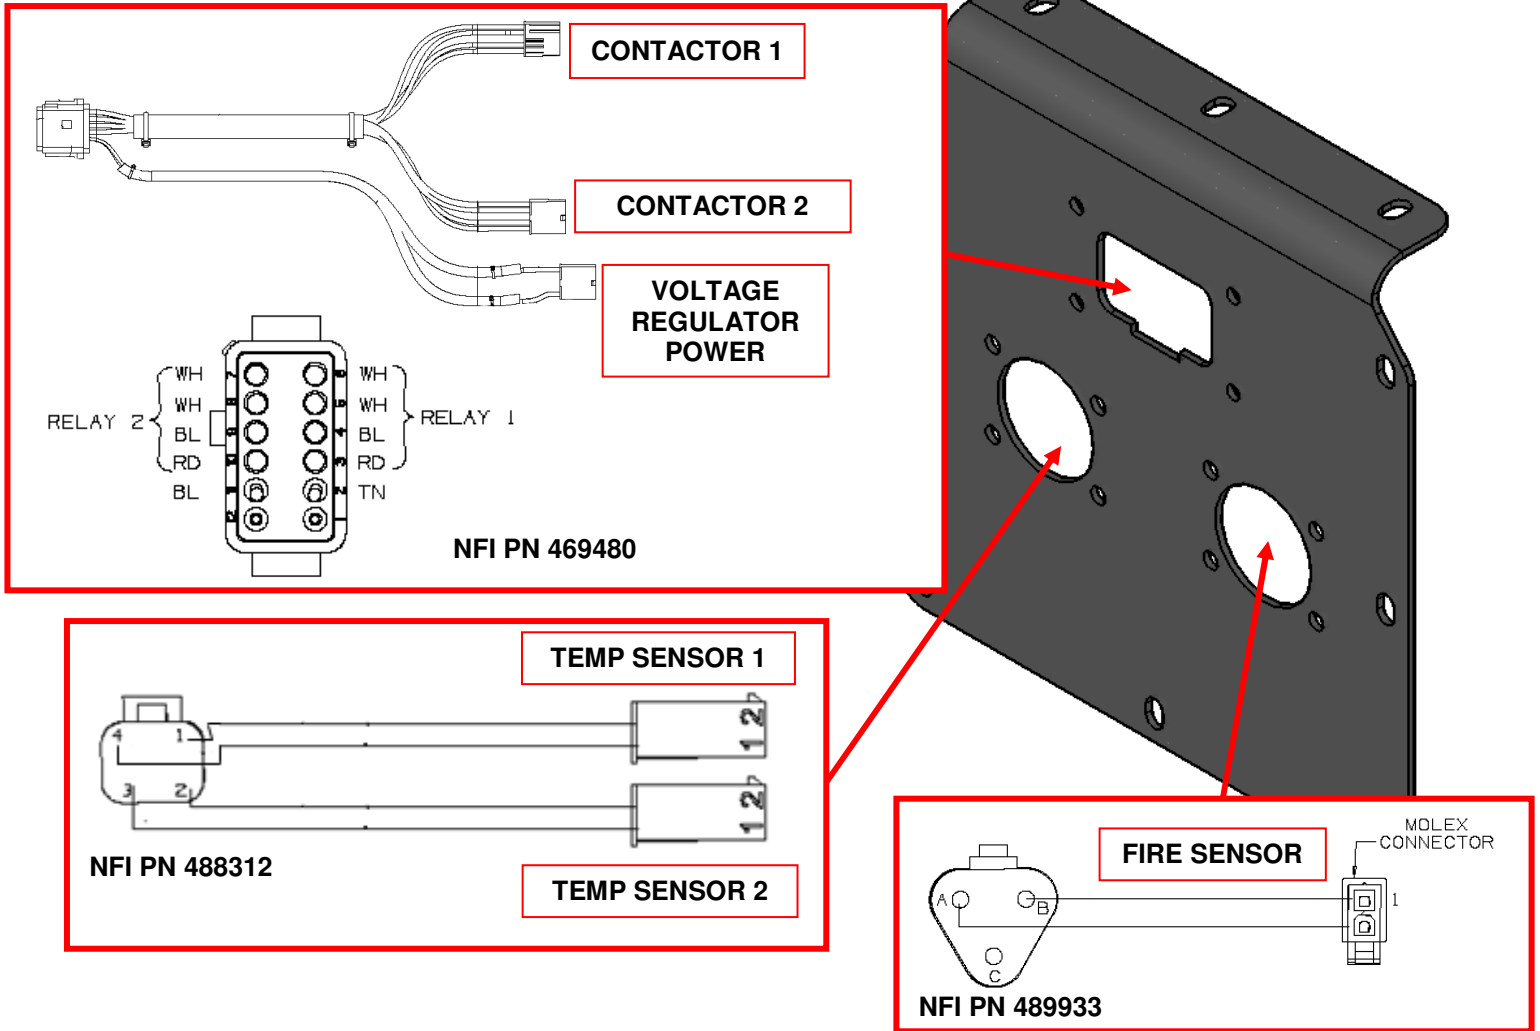

Fig 19 – Adapter harnesses for door assembly
- l. Plug in Temp Sensor 1 and 2 harness **NFI PN 488312** into door assembly. Reconnect Temp Sensors. See Fig 19
- m. Plug in the Fire Sensor adapter harness **NFI PN 489933** into the existing fire bottle/fan cross harness. See Fig 19
- n. Plug in Contactor and Voltage Regulator Power adapter harness **NFI PN 469480** into existing Relays and Voltage Regulator Power harnesses. See Fig 19